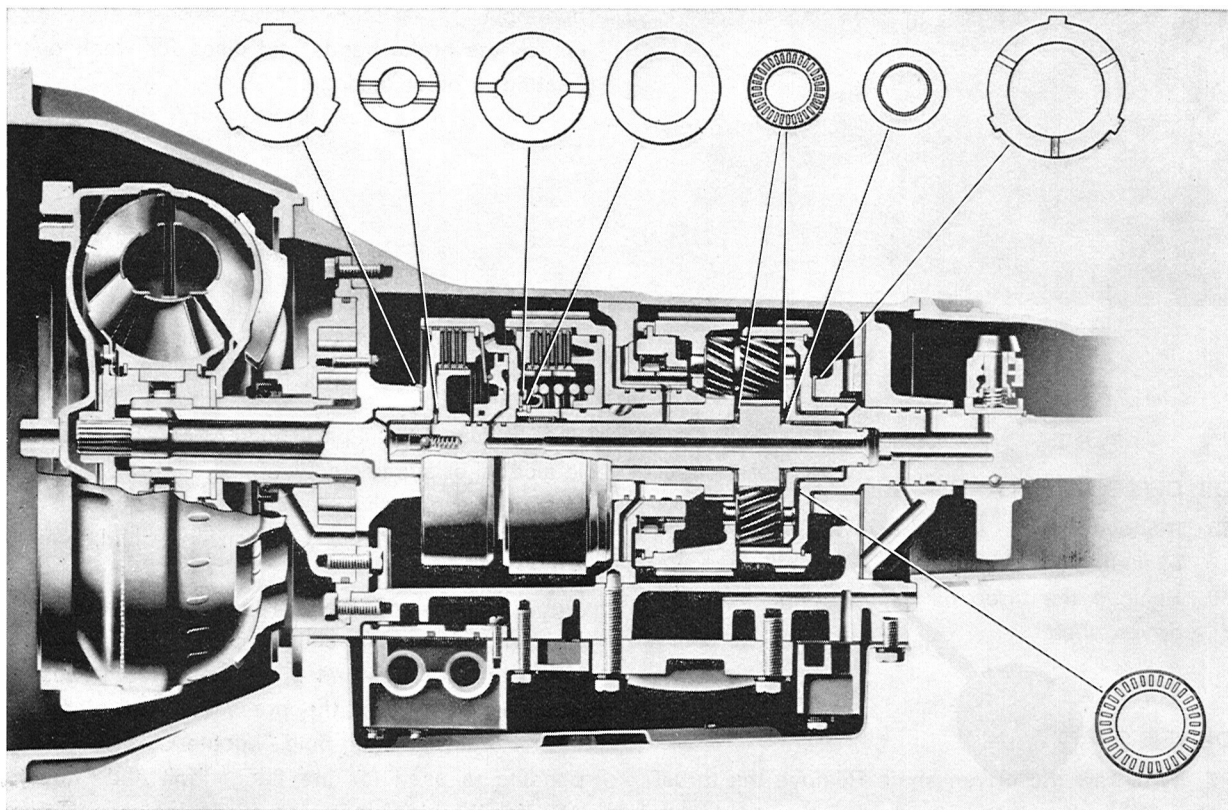

Fig. 4-105. Location of thrust washers
3. The thrust washers for the driven shaft, see Fig. 4-105, are stuck onto the transmission case with vaseline. The driven shaft complete with ring gears is then installed into the transmission case.
Be careful not to damage the oil seal rings. For identification of the thrust washers, see Fig. 4-105.